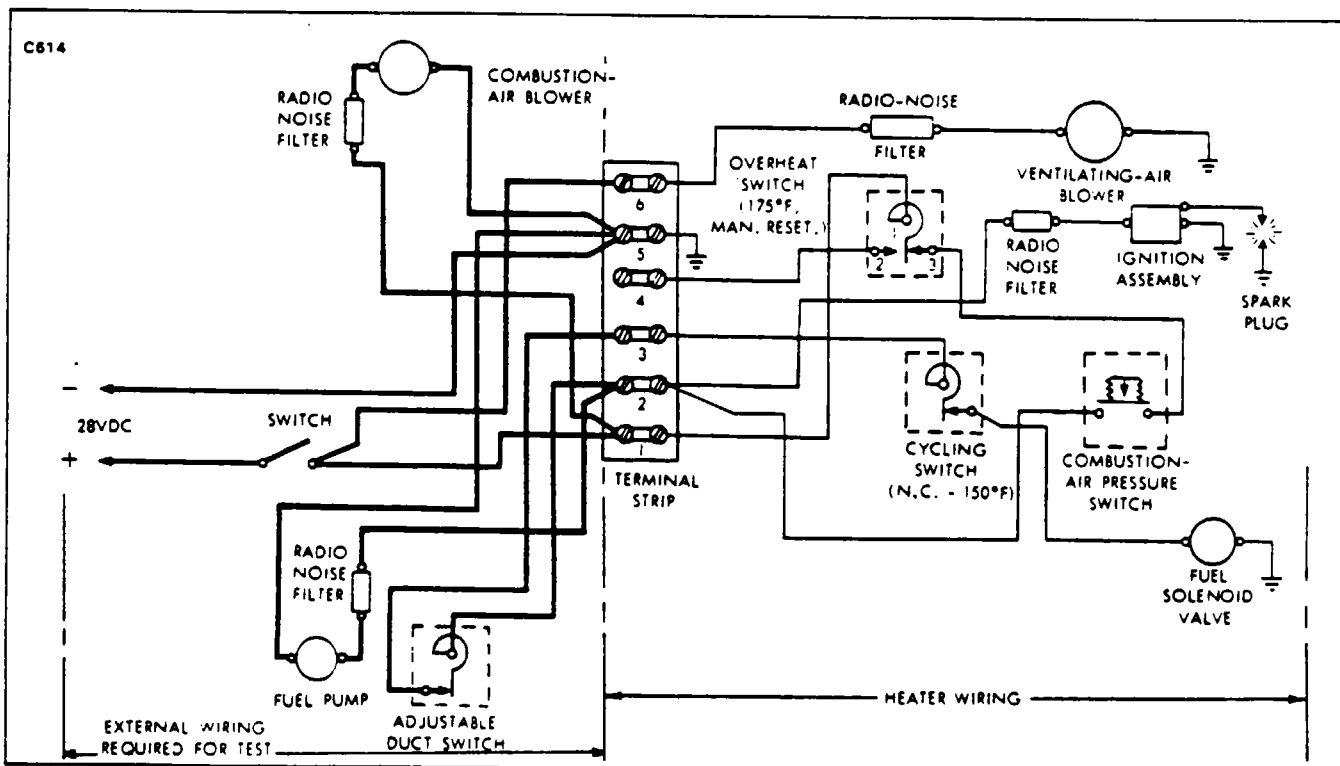

Figure 21-12. Wiring Connections for Heater Operation Test (Typical)
3. Connect components and heater as outlined in the wiring connection diagram, Figure 21-12. The power supply switch should be open.